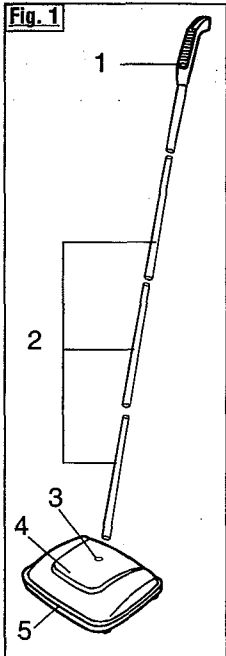

Fig. 1
REFER TO Fig. 1 ABOVE
No tools needed. Put the handle grip and three (3) sub-sections together by inserting tapered ends into the wider open ends (Figure 3) and tap on ground or firm surface to secure fit. Insert the bottom section of the wands into the pivot (refer to Fig. 1 above) of the base and press down until secure.
Turn sweeper upside down. Lift up on side brushes (Fig. 1) and dump out each dirt tray over waste container (Fig. 2).